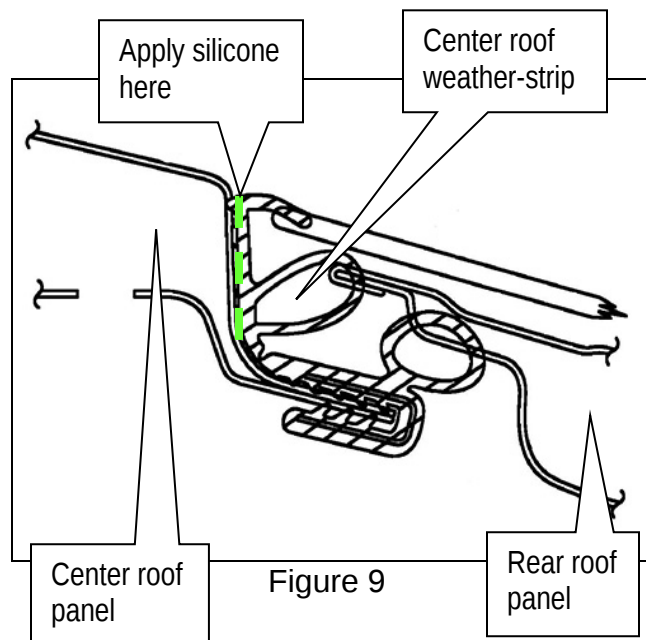

Figure 9
- Apply silicone sealant where shown in Figures 9 and 10 by green dash line.
- Figure 9 is a cross section of center roof panel, center roof weather-strip and center rear panel.